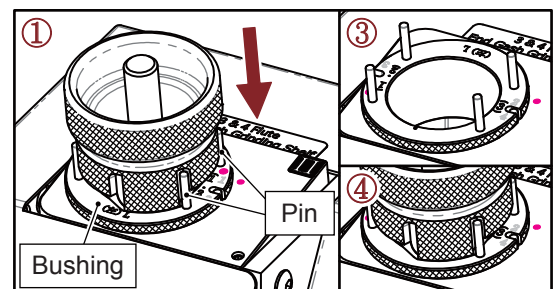

Fig. 10-2
#### 2. 3 Flute End Gash Grinding (II) (Fig. 10-2)
- ① Insert the Chuck set into the bushing on Shelf (II), align Slot No.1 with the two pins where marked as No.(1·2), gently push the Chuck set until the grinding noise stops.
- ② Take the Chuck set out and turn it to grind the Slot No.2 in the same way.
- ③ Take the Chuck set out and turn the bushing to No.(3), align No.(3) with the pin on the shelf, then insert it to the end.
- ④ Insert the Chuck set into the bushing, align Slot No.3 with the two pins where marked as No.(3), gently push the Chuck set until the grinding noise stops.